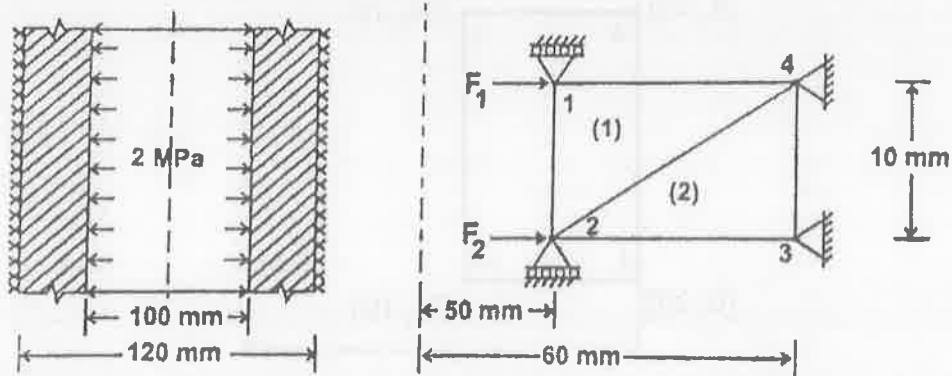

Figure. 9
- (b) A long hollow cylinder of inside diameter 100 mm and outside diameter 120 mm is firmly fitted in a hole of another rigid cylinder over its full length as shown in Figure 9. The cylinder is then subjected to an internal pressure of 2 MPa. Determine the [K] for element 2 by assuming $E = 210 \text{ GPa}$ $\nu = 0.25$.